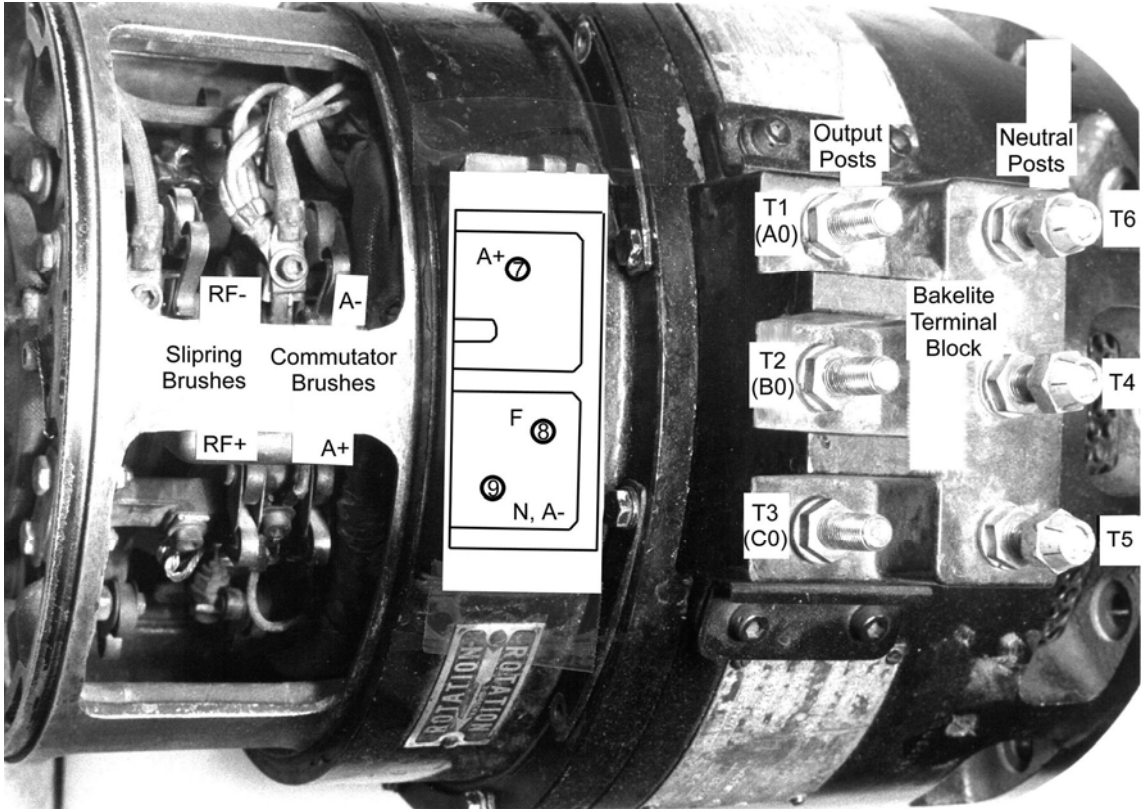

Figure 2 Brush Alternator
- 3.1.2. Check all the connections on the alternator bakelite terminal block. Make sure all the terminal base nuts are tight (*figure 2*).
NOTE: The neutral point of the 3-phase source is connected to terminal posts T4, T5, and T6, which comprise the neutral bar (*figures 2 and 10*).
- 3.2.2. **(only for old VR-1's)**. Set INTERNAL/EXTERNAL switch to EXTERNAL. With the alternator running measure the voltage between the alternator neutral bar and the A+ terminal (positive side of the armature winding) (*figure 2*). It should be > 12 volts.
3.3.1. If steps 3.2.1 and 3.2.2 fail to disclose a problem, the next step is to check the alternator itself. Remove the sheet metal protector from around the alternator (*figures 2 and 5*). This will expose the brushes and commutator. Slip each brush out of its holder (use care, they are carbon, and are delicate). Make sure all connecting wires and brushes are in satisfactory condition. When replacing the brush make sure to put it back in the guide the same way it came out.
3.3.6. Disconnect all wires from the neutral bar (*figure 2*). Remove the neutral bar (plate which connects all three posts on upper position of Bakelite terminal block).